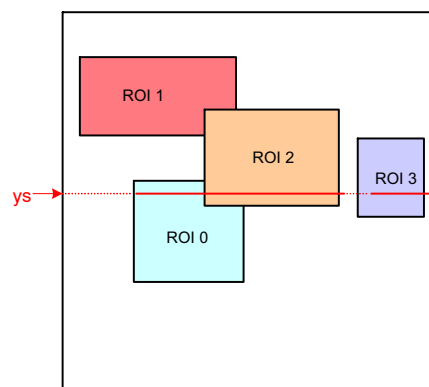

Figure 27. Scanning the Image Array with Four Windows
Figure 27 illustrates a practical example of a configuration with four windows. The current position of the read pointer (ys) is indicated by a red line crossing the image array. For this position of the read pointer, three windows need to be read out. The initial start position for the x-kernel pointer is the x-start configuration of ROI0. Kernels are scanned up to the ROI2 x-end position. From there, the x-pointer jumps to the next window, which is ROI3 in this illustration. When reaching ROI3's x-end position, the read pointer is incremented to the next line and xs is reinitialized to the starting position of ROI0.
- The read pointer is not necessarily incremented by one, but depending on the configuration, it can jump in y-direction. In Figure 27, this is the case when reaching the end of ROI0 where the read pointer jumps to the y-start position of ROI1.